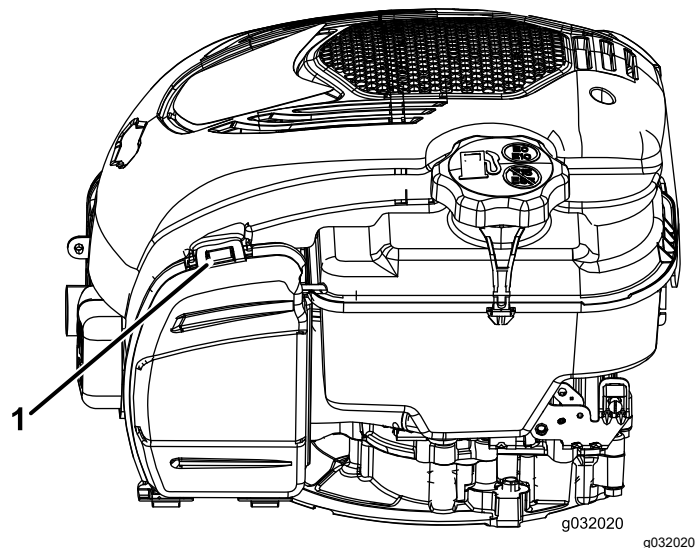

Figure 19
1. Pull the tab to open the air-filter cover (Figure 19).